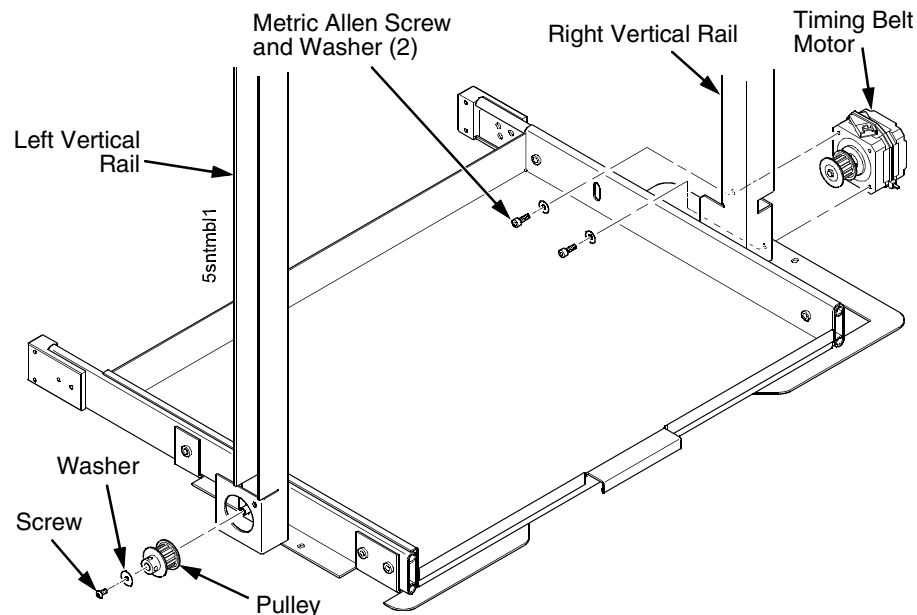

Figure 94. Removing the Timing Belt Pulley and Motor
3. If you are removing the left timing belt, remove the screw and washer from the pulley at the bottom of the left vertical rail, and remove the pulley. (Figure 94.) Go to step 6.
4. If you are removing the right timing belt, remove the two metric Allen screws that secure the timing belt motor to the right vertical rail. (Figure 94.) Go to step 5.